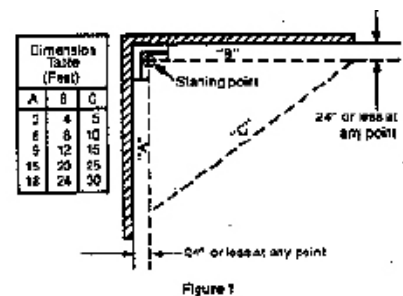

Figure 1
STEP 3. Having established the proper starting point, lay out two chalk lines at right angles to make sure the room is square. See figure 1 for exact procedure. Chalk lines must be used as control lines for installing the access floor. The reason for laying chalk lines rather than just measuring from the walls is that the walls are not always square. The chalk line system gives a square reference point. Be careful to keep the access floor square at all times during installation.
NOTE: When starting the installation in the corner of a room, stretch a dry line for line "B" before laying down chalk. Check the distance from "B" line and the "A" chalk line to the walls. If the distance to the walls is over 24 inches at any point, move the entire line closer to the wall so that the greatest distance is 24 inches or less (See figure 1.)